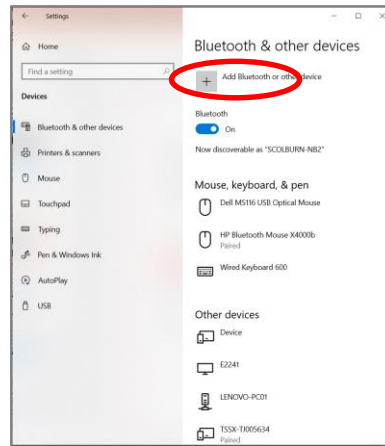

Figure 2
2. Turn Bluetooth ON and tap the **Add Bluetooth +** button (Figure 2)